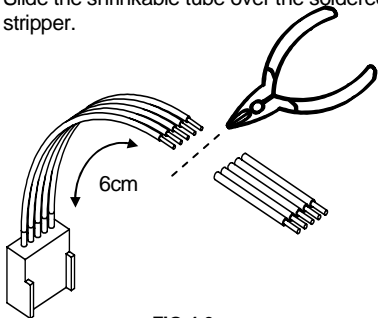

FIG 4.0
- Cut off a piece of each wire of the female 'board-to-wire' connector so there is 6cm of wire left on the connector. See fig. 4.0